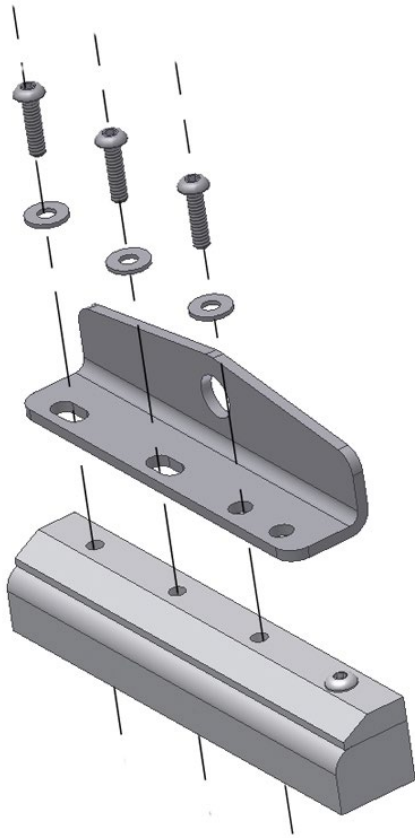
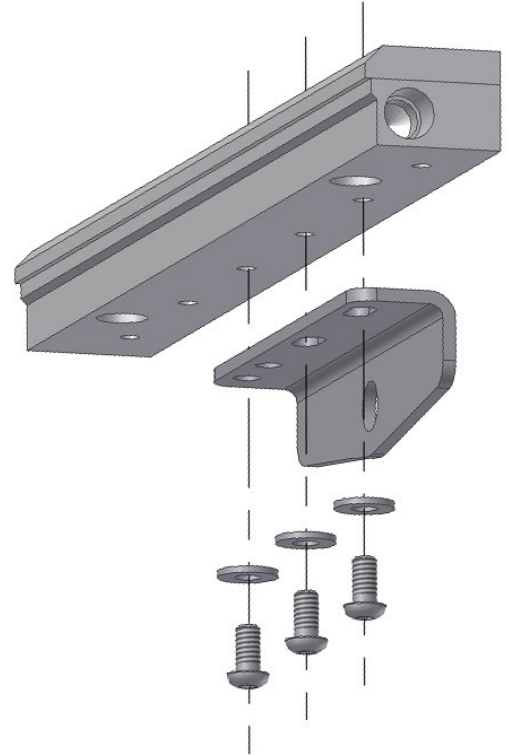

**Figure 1** 12" (305mm) Alum.
**Figure 2** 3" (76mm) St. Steel
Determine the best mounting position for the air knife and remove (3) adjacent screws as shown in Figure 1. While it is recommended to use the screws nearest the center of the air knife, it is not required. Place the bracket flat on the knife and align the holes (see Figure 1). For 3" (76mm) air knives, it may be necessary to use only (2) screws and allow the bracket to overhang the end of the air knife (see Figure 2). Install the new screws and washers (see Table 1 on page 3). Torque to 7.5 ft-lbs. For air knives that are assembled using screws and nuts, re-use the original nuts.